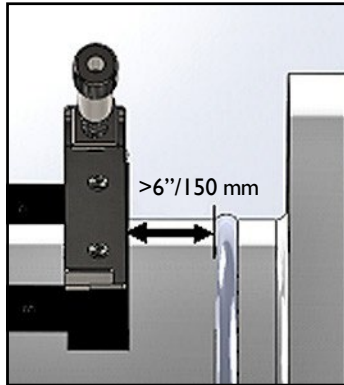

Figure 10: Adjusting the Fixture Position
- Adjust the clamp-on fixture position so that the outer edge of the closest end piece is located at the chosen distance from the nearest inlet, outlet, joint or fitting in the pipeline (see Figure 10 below).